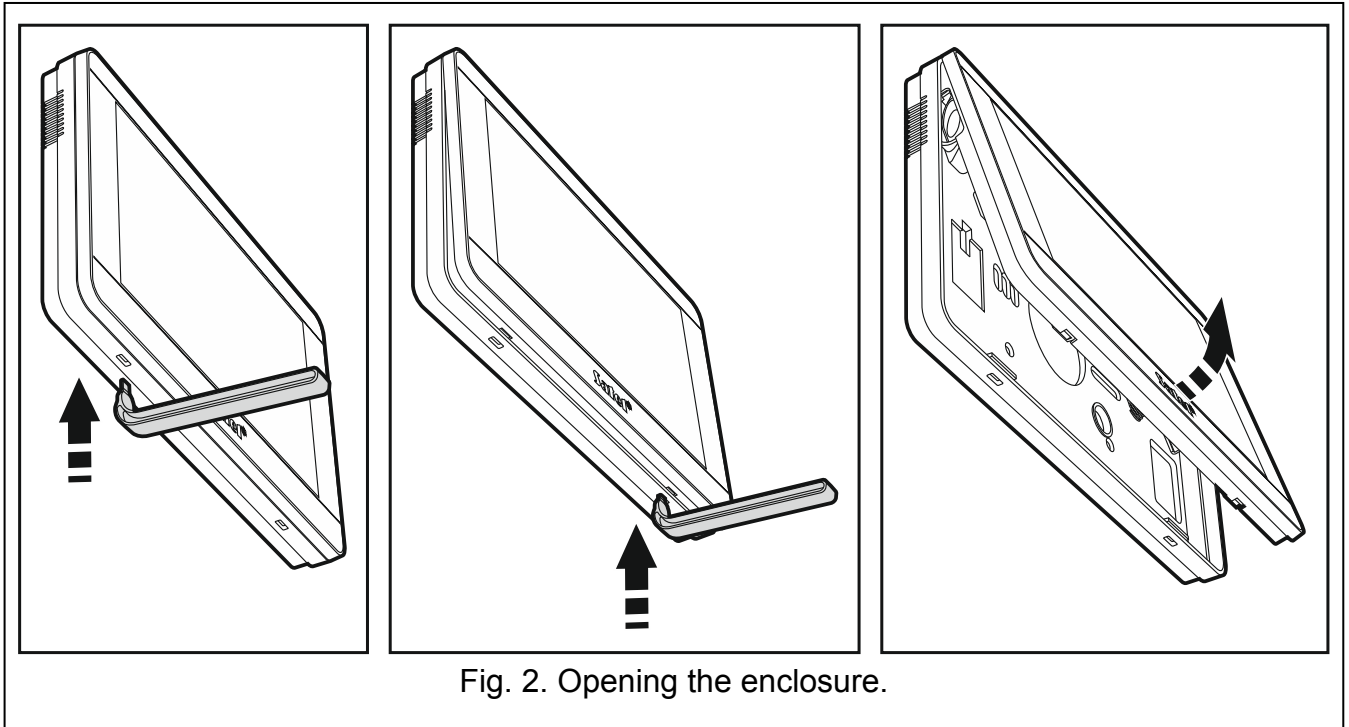

Fig. 2. Opening the enclosure.
1. Open the keypad enclosure (see: Fig. 2).
1. Open the keypad enclosure (see Fig. 2). The enclosure opening tool, shown in the illustration, is included in the keypad delivery set.